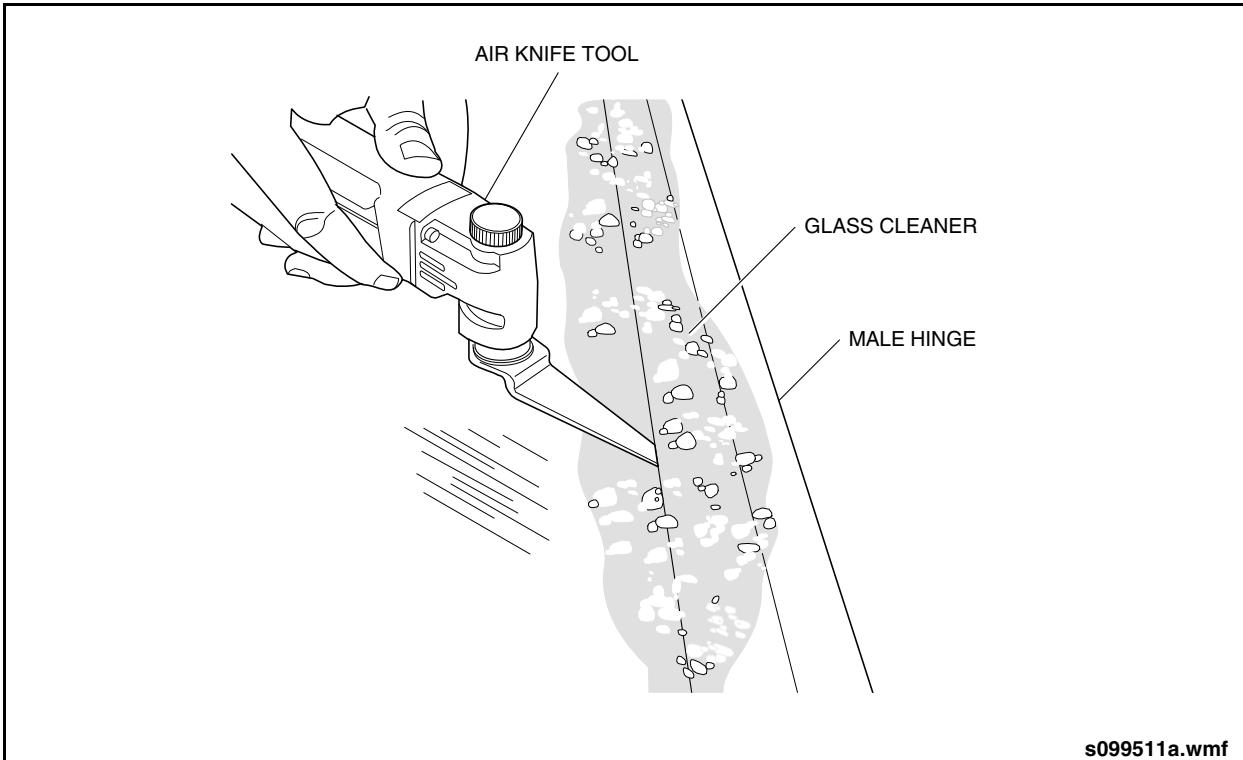

Fig. 14-16: Cutting of Bond Between Male Hinge & Glass
2. Using the air knife cut the bond between the male hinge and the glass. See ""Fig. 14-16: Cutting of Bond Between Male Hinge & Glass" on page 20. Slightly lift up on the male hinge to prevent the blade from getting stuck.